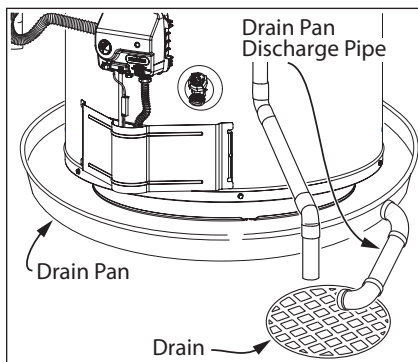

Figure 25 - A metal drain pan piped to an adequate drain can help protect flooring from leaks and drips.
- In a metal drain pan piped to an adequate floor drain or external to the building (Figure 25).